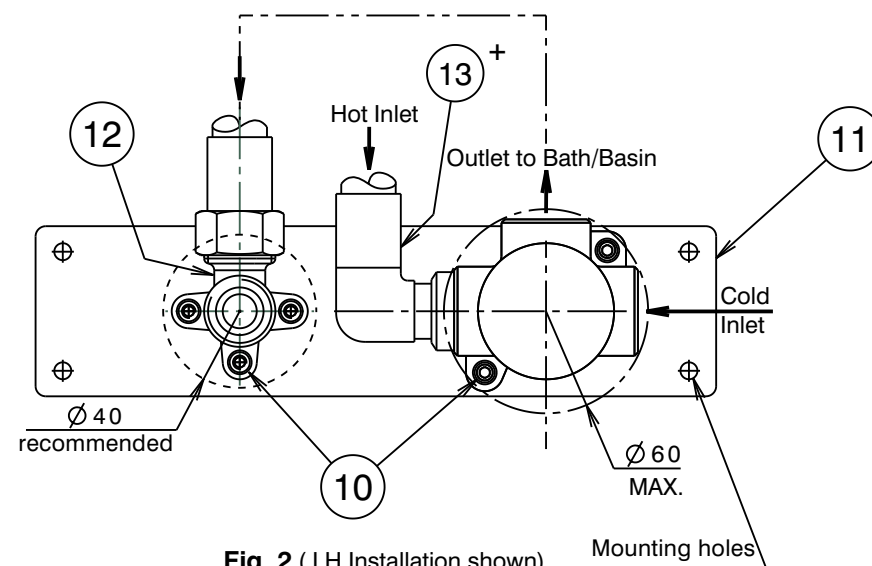
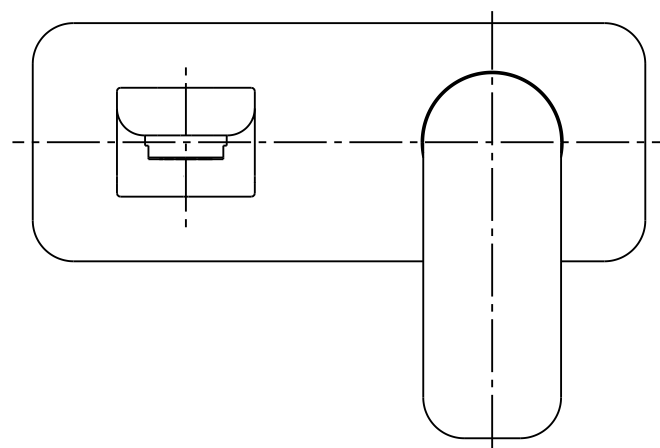

Fig. 2 ( LH Installation shown)
Fig. 3 (LH Installation Shown)
- 1) Determine if outlet (17) is to be positioned to the right or the left of the mixer body (8) when installed (Fig 3.). Fit suitable fittings to the connection ports of the mixer (8) (Fig 2.). When facing the mixer, the connections should be as follows :
**Note:** A suitable elbow fitting (13+) should be fitted to the inlet connection adjacent to the lugged elbow (12) (Fig.2). Attach the mixer body (8) & the lugged elbow (12) to the mounting plate (11) with screws (10) and tighten using a suitable screw driver. Note: Mounting plate can be rotated 180° to change hand.
- 2) Fit the mounting plate (11) onto a suitable noggin in the wall & secure using screws through the holes in each corner.
- \* The mounting plate (11) must be installed horizontal & parallel to the face of the wall studs to ensure correct installation.
- 3) Complete the connections. (Fig. 2). Check all connections for leaks and the mixer for correct operation.